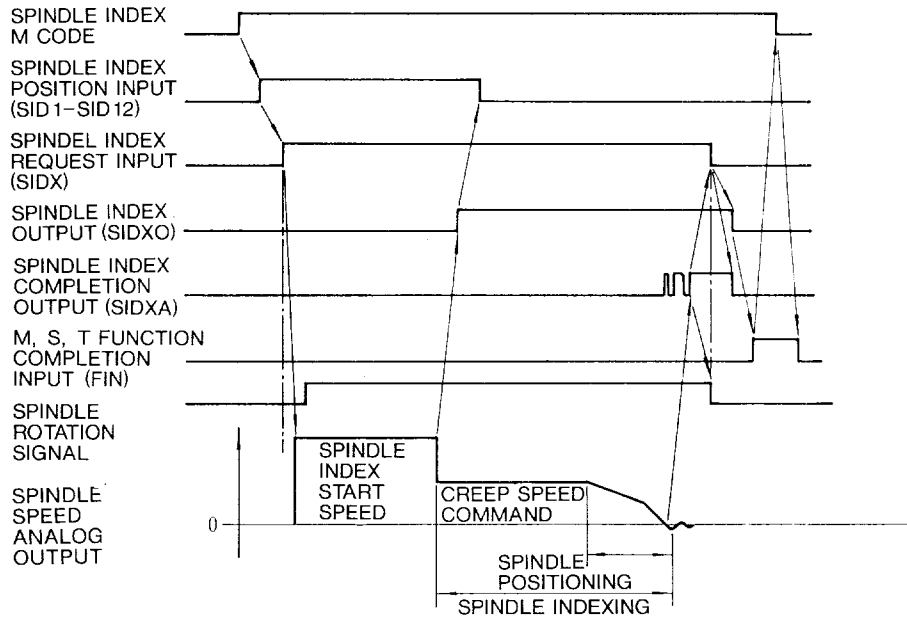

Fig. 18.16
(3) SPINDLE INDEX TIME CHART
- Spindle index by M-code at spindle stop (Spindle positioning is released after spindle index is completed.) See Fig. 18.16.